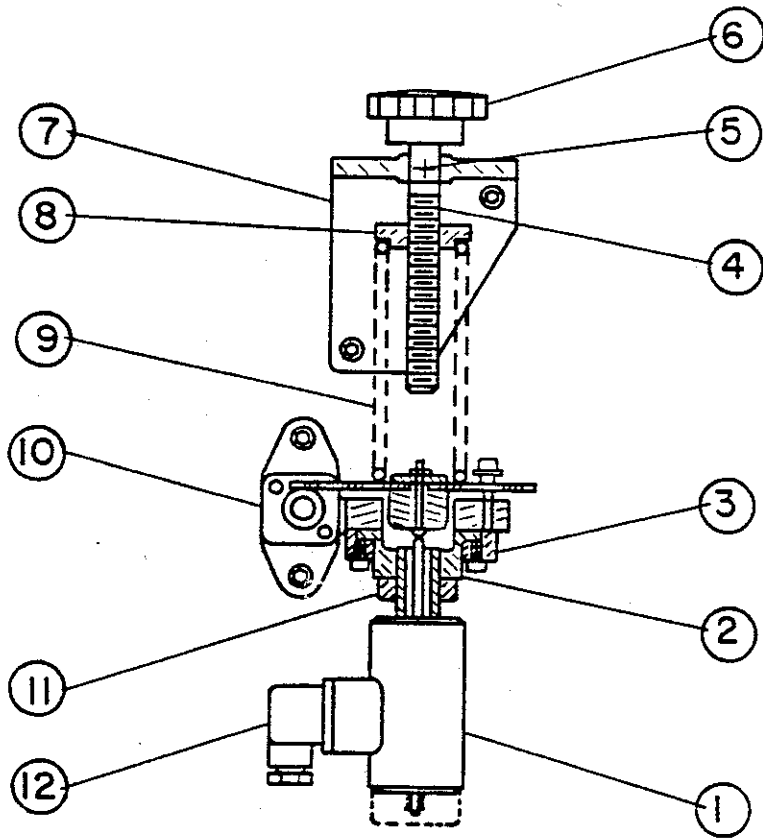

Figure 5. Electric Speed Control Assembly.
Read instructions furnished with system controller (control panel). Solenoid (1, Fig. 5) must be connected to system controller according to furnished wiring diagram. Voltage control range is from 0 to 12 V.D.C. Pump drive shaft will reach maximum speed at low end of voltage control range and minimum speed at high end of voltage control range.
Note: Do not change setting of adjusting stem (4, Fig. 5). This will change spring tension and may cause the Hydroconstant to become uncontrollable. Do not attempt adjustments on the adjusting stem unless it is absolutely necessary.
2. Unscrew the locking screw in the conduit connector (12, Fig. 5) and unplug the connector.
3. Unlock the locknut at the base of solenoid (11, Fig. 5).
4. Unscrew the two set screws in the slip ring clamp (3, Fig. 5).
5. Hold the solenoid still in one hand while turning the slip ring (2, Fig. 5) CW until the output shaft speed of the drive stops increasing. Check and verify this is the full rated speed.
8. Lock the solenoid in place by tightening the 2 set screws in the slip ring clamp (3, Fig. 5).
9. Tighten locknut (11, Fig. 5).
10. Loosen the set screw on the adjusting screw bracket (5, Fig. 5).
11. Using a flat blade screw driver, unscrew the spring adjustment screw (4, Fig. 5) until it stops. Do not force spring adjustment screw beyond its stop.
12. Plug the conduit connector (12, Fig. 5) to solenoid and lock (tighten screw) in place.